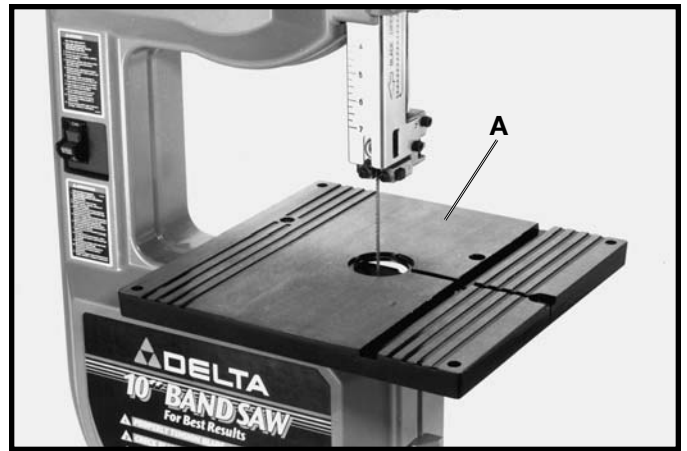

Fig. 7
1. Slide table (A) Fig. 7, into position on band saw trunnions, as shown.